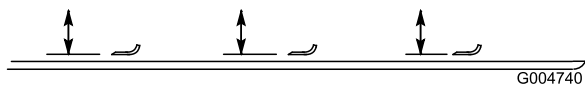

Figure 98
2. Rotate the blade until the ends face forward and backward (Figure 98). Measure from the inside of the cutting unit to the cutting edge at the front of the blade. Record this dimension.